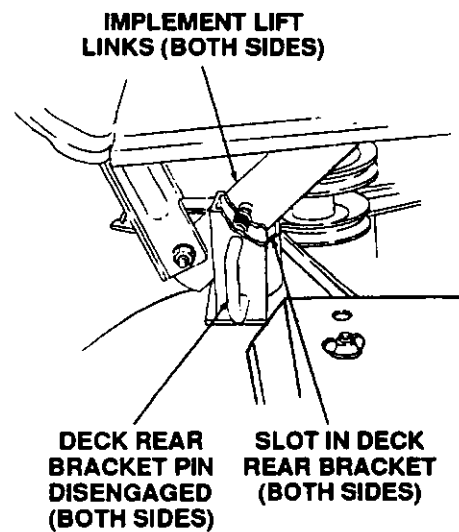

Figure 16
11. If not previously accomplished, pull deck rear bracket pins outward, turn upward and release so both spring loaded pins are held against the outside surface of the brackets in their disengaged positions. (Refer to Figure 16.)